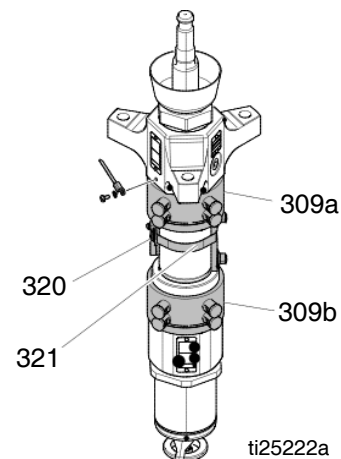

FIG. 29
- On the ADM, turn off the system heat (D).
13. Tightly strap the air motor to the tie bar with a cable through the air motor lift ring and around the tie bar. See FIG. 29, page 49.
14. Loosen u-bolts (X) from platen lift rods.
15. Remove nuts (F) from pump/air motor stand-off rods at the pump end.
16. Remove nuts (Z) and bolts holding cable track to air motor support plate.
18. Remove nuts (N) from follower lift rods.
19. Fully loosen pump rod coupler to the air motor rod (G).